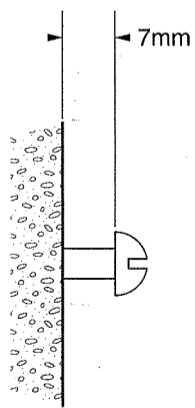

Figure 11. Screw head clearance for template on this side (Version 2).
5. Drill & wall plug the marked points and fix screws leaving a clearance of approximately 7mm (see Fig. 11).